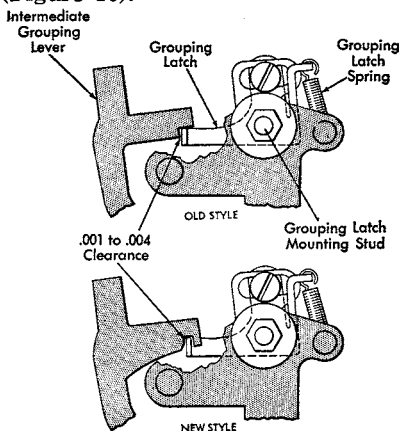

Figure 17. Grouping Latch Mounting Stud Adjustment
6. GROUPING LATCH MOUNTING STUD. Adjust to the left or right so that with the tab lever latched and held by the keeper, the grouping latch will bottom in the notch of the intermediate grouping lever and clear the left side of this notch by .001" to .004" (Figure 17).